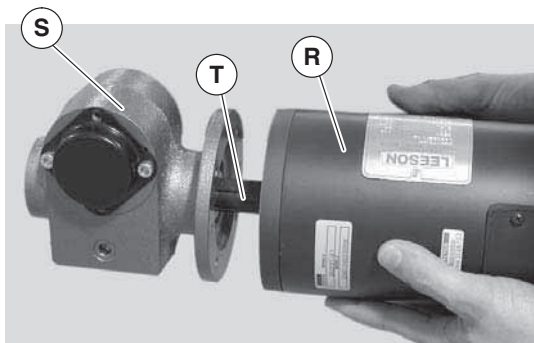

Figure 14
- With key (Figure 14, item T) in keyway, slide motor (R) and gear reducer (S) together.